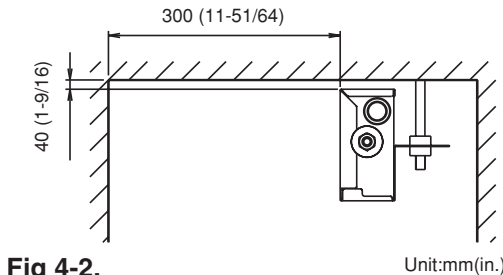

Fig 4-2.
- (1) Install the unit level on a strong wall, floor, ceiling which is not subject to vibration.
- (2) Install the unit where the connection pipe can be easily installed.
- (3) Take servicing, etc. into consideration and leave the spaces shown in Fig. 4-2.
- (4) Install the unit where vibrations and noise are not amplified.